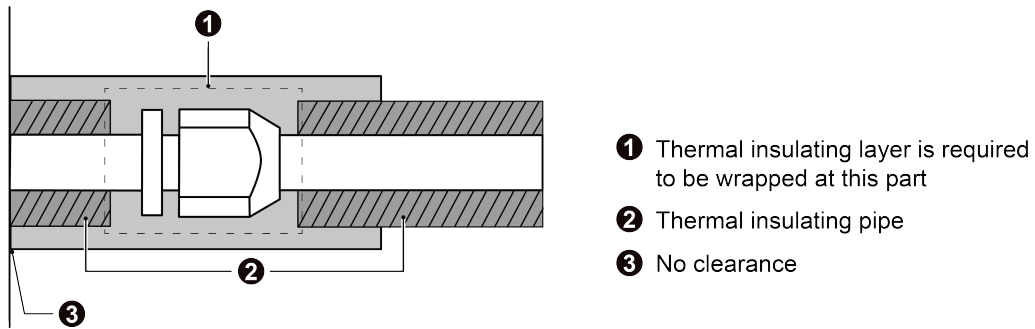
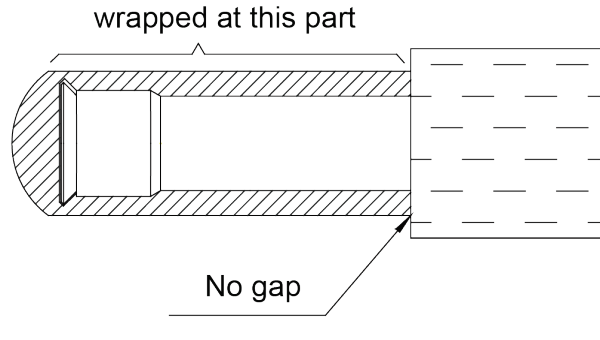
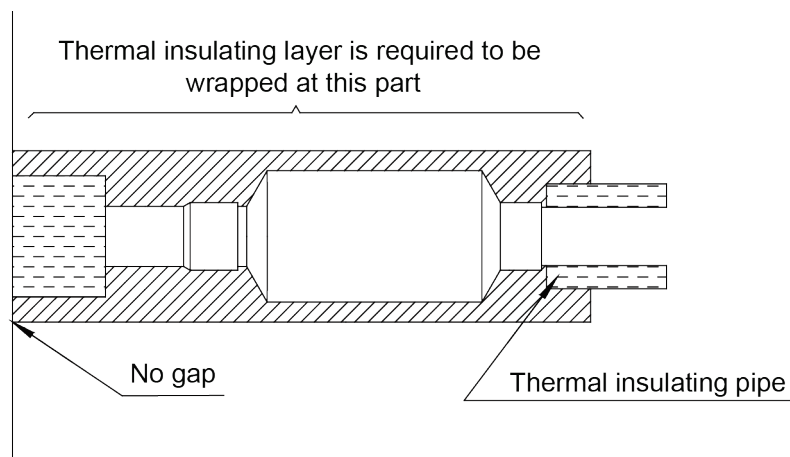

Fig.4.27
Fig.4.28
Fig.4.29
- 3) Joints of indoor and outdoor unit should be wrapped with insulating material and leave no gap to surfaces of indoor unit and outdoor unit. See Fig.4.27, Fig.4.28 and Fig.4.29.